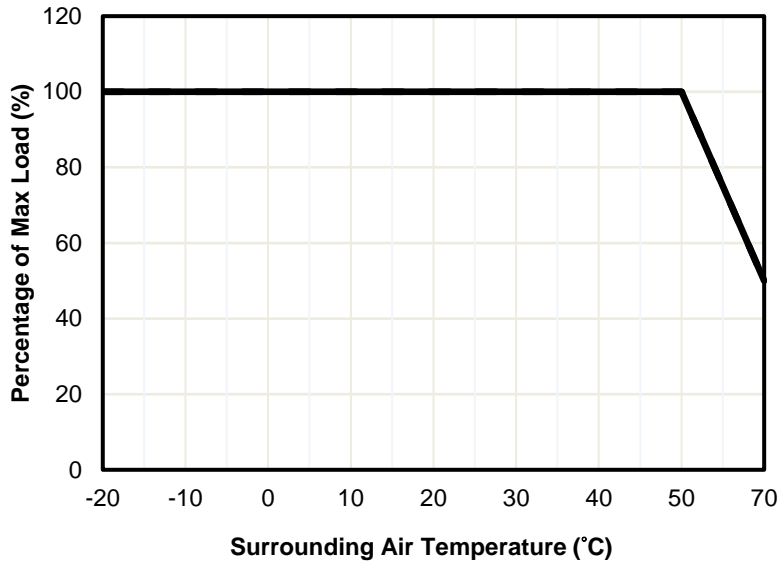

Fig. 2 De-rating for Horizontal Mounting Orientation
1. Power supply components may degrade, or be damaged, when the power supply is continuously used outside the shaded region, refer to the graph shown in Fig. 2 & Fig. 3.